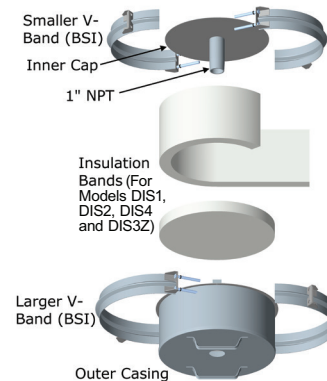

Figure 34: Drain Tee Cap (DTC)
The Drain Cap (DTC) is used as a drain for the base of vertical installation and must be connected to a suitable disposable point. It can also be used as an access for cleanouts or access purpose. See **Figure 34**. Same installation as a Tee Cap (TC).